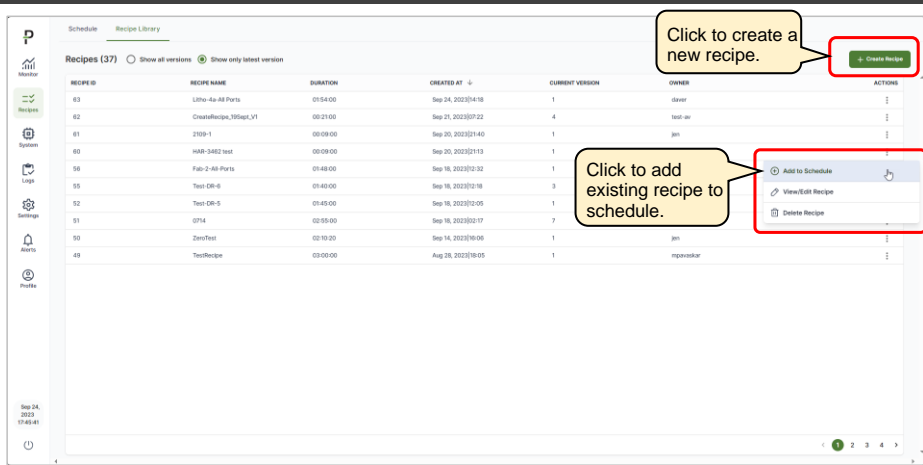

Figure 42: Recipe Library Window
From the **Recipe Library** window (Figure 42), you can create new recipes using the **+ Create Recipe** button (which are then automatically stored in the library). You can also add an existing recipe from the library into the schedule.
1. From the Recipe Library page (Figure 42), click the **+ Create Recipe** button to open the **Create New Recipe** dialog window.